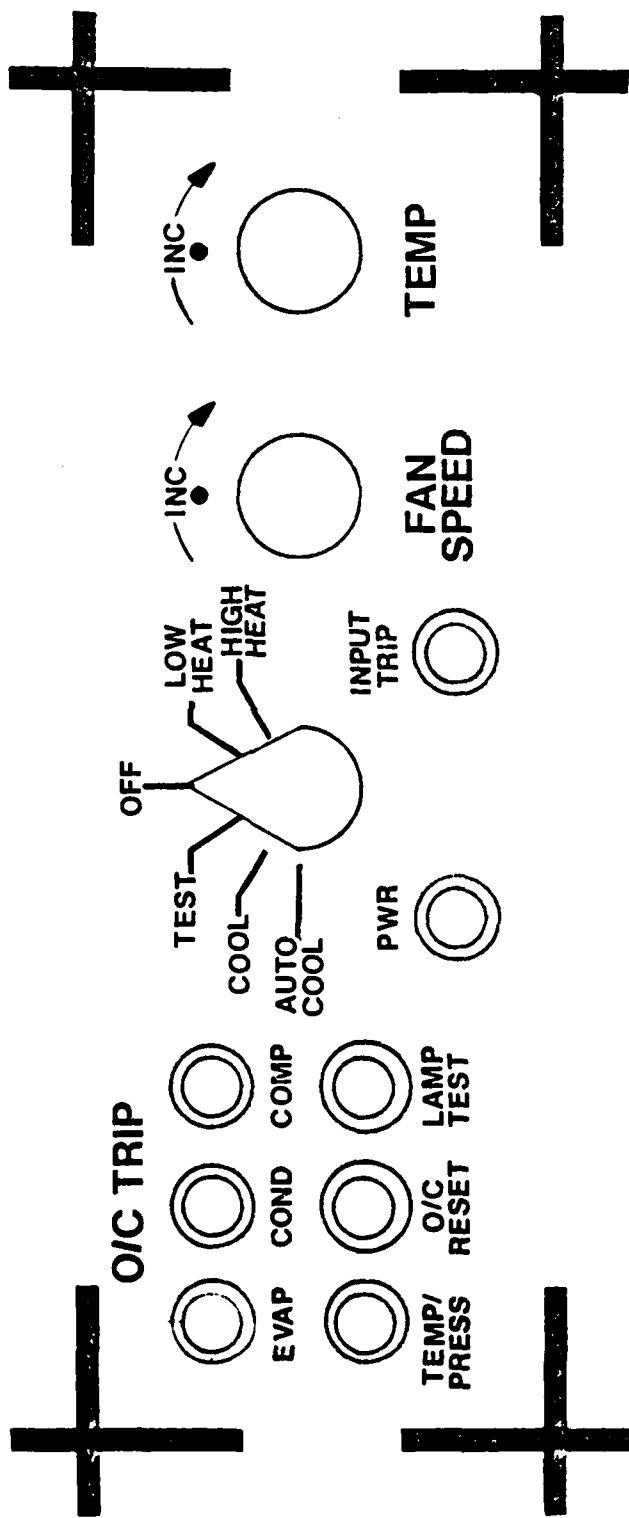

FIGURE 1-2
B. Modes of Operation (Figure 1-2)